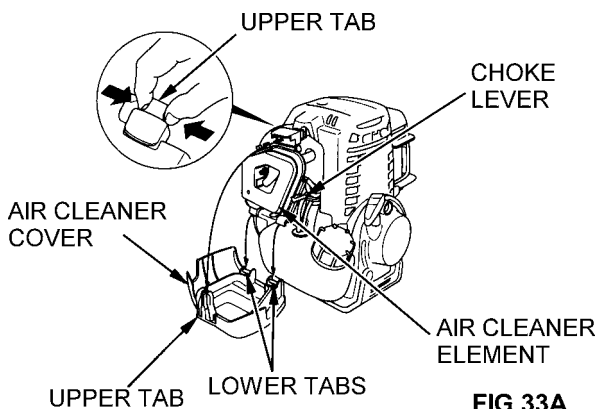

FIG 33A
- Reinstall the filter (Fig. 33A) air filter cover. Note sequence of parts.